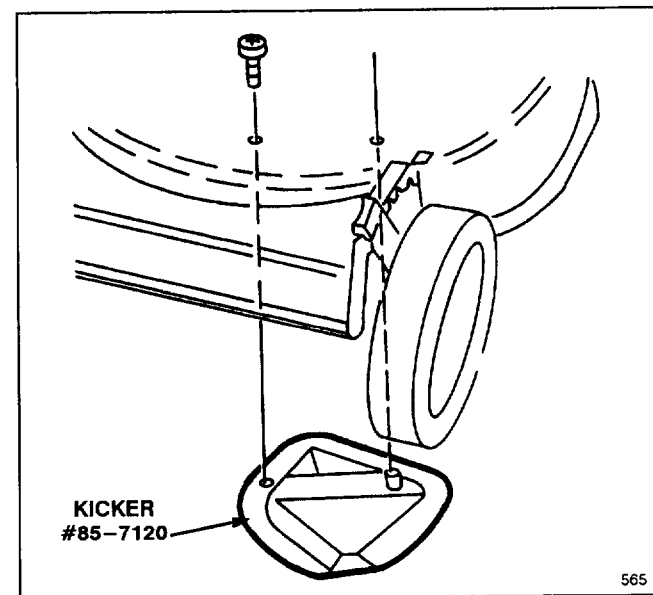

Figure 13
4. Position kicker #85-7120 as shown in Figure 13. Repeat step 3 to secure kicker to deck.